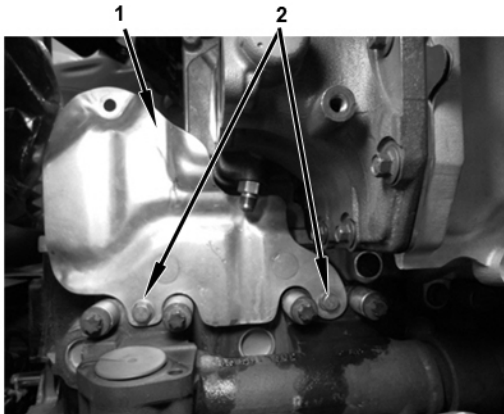

Figure 26 EGR Heat Shield
4. Install EGR heat shield (1), install two M8 x 12 bolts (2), and torque to 18 lb-ft (24 N•m) (Figure 26).